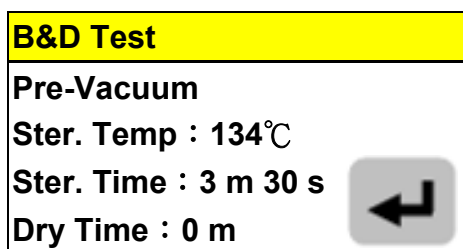

Figure 110
- E. Press  button to confirm the selection of B&D Test Program, as shown in Figure 110.